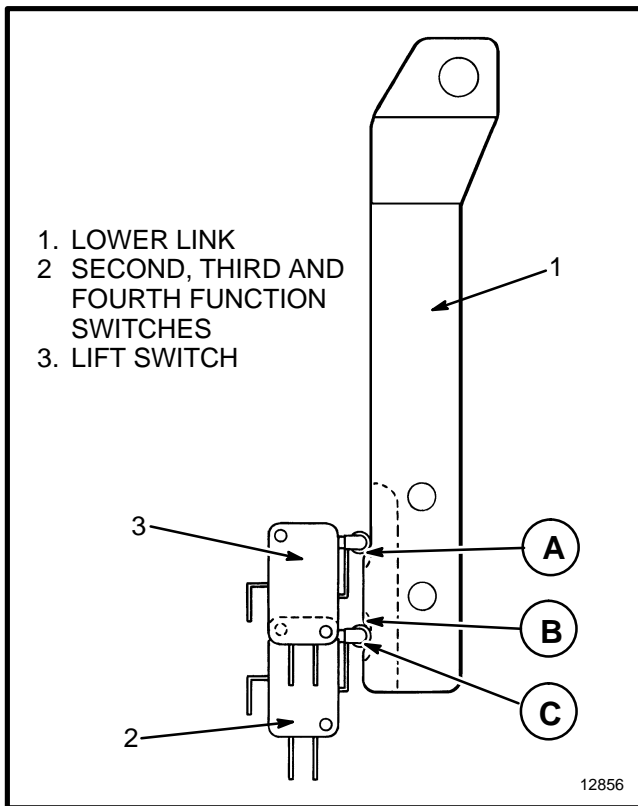
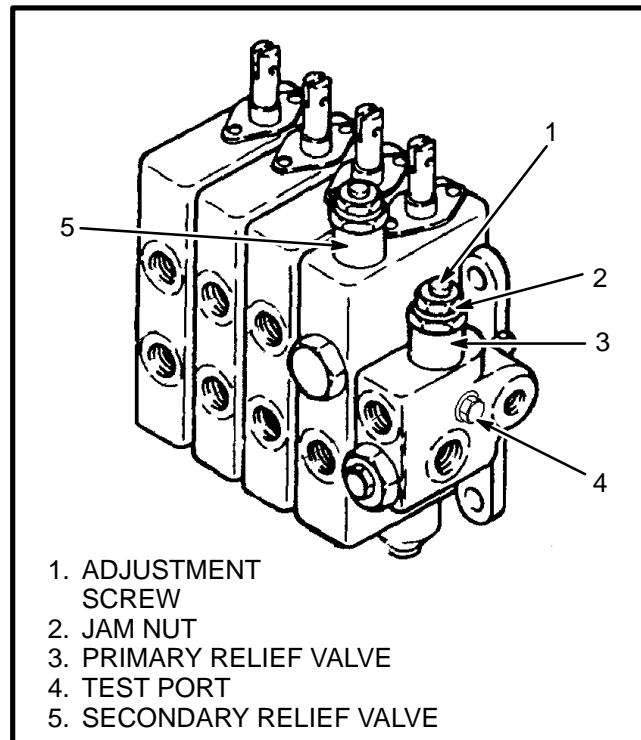

FIGURE 11. SWITCH ADJUSTMENTS,
FIGURE 12. RELIEF VALVE LOCATIONS
- Maintenance records. See FIGURE 11. and FIGURE 12.
Primary Relief Valve (See FIGURE 12.)